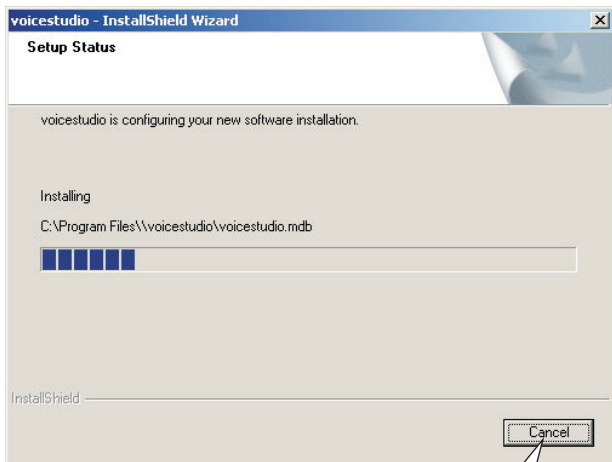

Figure 19
- In program installation process, if want stop it, please click the Cancel button, as shown in figure 19: